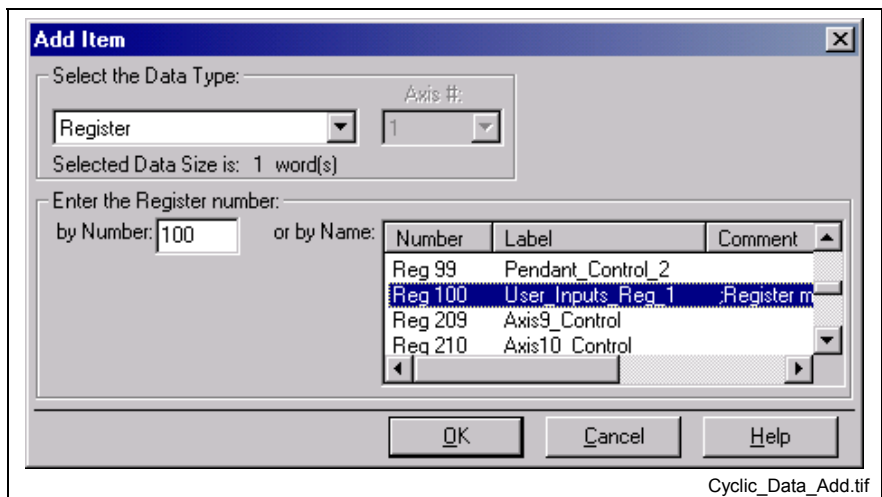

Fig. 7-166: Add Item to Cyclic Data
2. Click **A**dd. The window in Fig. 7-166 below appears. Select the Data Type (for example, Register).